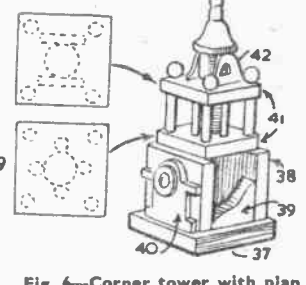

Fig. 6—Corner tower with plan of two platforms
The towers on the west front of the model are seen in the detail, Fig. 6, built up as shown. Note the positions of the columns erected on the two upper pieces (41). On the lower square you have  $\frac{1}{8}$  in. length of  $\frac{1}{8}$  in. dowel glued in the middle. Close to this dowel on four sides are glued  $\frac{1}{8}$  in. lengths of  $\frac{1}{8}$  in. diameter dowel. A further four columns exactly the same size are glued in at the corners, as shown by the plan in Fig. 6. Above the upper part of (41) a  $\frac{1}{8}$  in. length of  $\frac{1}{8}$  in. dowel is glued on centrally, to form the base of the turned ornament supplied in the kit. At four corners tiny round balls, which can be made from waste wood  $\frac{1}{8}$  in. thick, are glued.
On each side of the centre dowel the ornamental pediments (42) are glued. When you finally glue the towers in place on the roof, these pediments (42) must face the front or west end of the model. Parts No. 40 form overlays round each tower (see Fig. 6) and on these in turn, the tiny rims cut from thin card are glued. Note that in the case of the right-hand tower, a clockface actually is fitted, and this can be indicated by a complete circle of card as